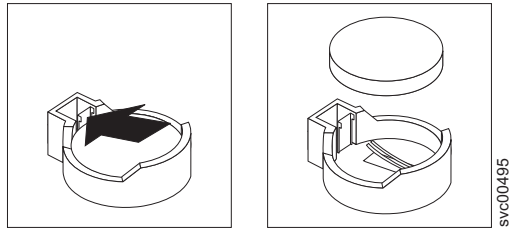

Figure 107. Removing the SAN Volume Controller 2145-8A4 CMOS battery
7. Remove the CMOS battery, as shown in Figure 107 on page 125: